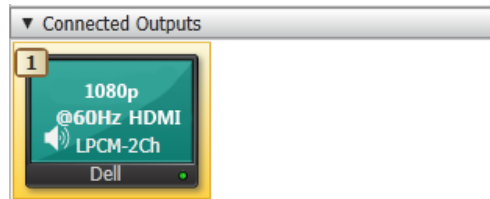

Figure 33. Connected Outputs Panel
- **Connected Outputs** — Displays the EDID (color-coded green) of the output connected to the SSP 200 HDMI Thru port (see figure 33).